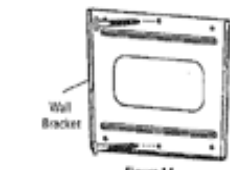

Figure 1A
5. Place the wall bracket against the wall and secure it using two (2) Lag Bolts (A) from the hardware kit (Fig. 1A).